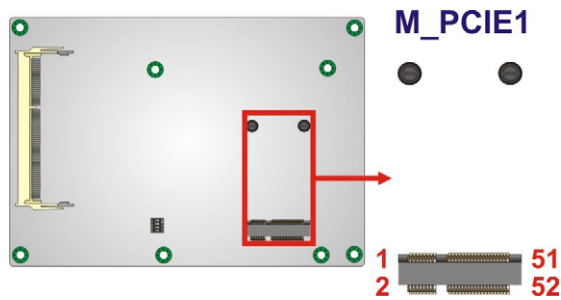

Figure 3-16: PCIe Mini Card Slot Location
- CN Location:** See **Figure 3-16**